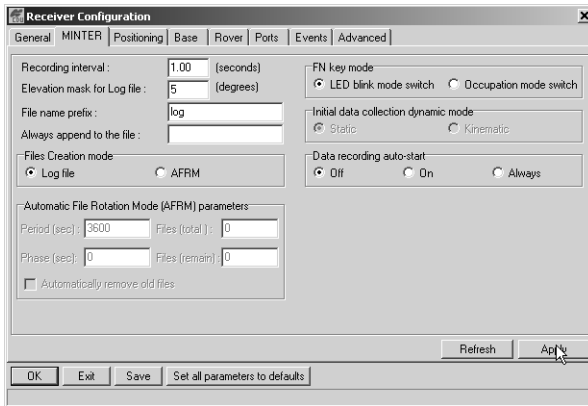

Figure 2-8. Receiver Configuration – MINTER Tab
3. Click the MINTER tab, configure the following settings, and click **Apply** (Figure 2-8 on page 2-12).